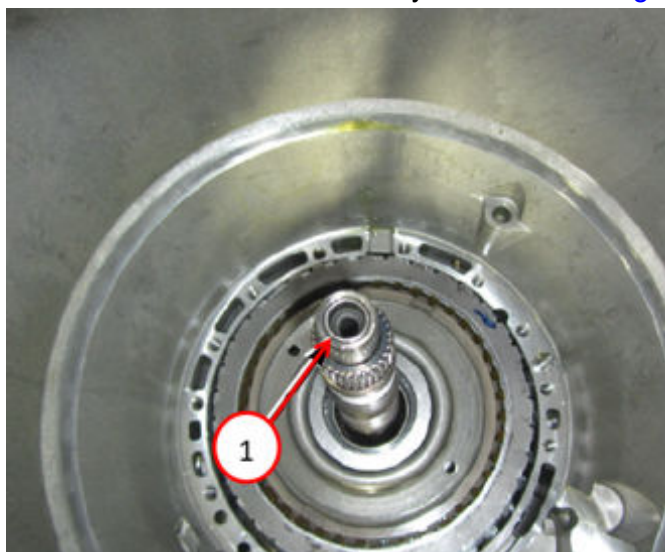

Fig. 35
52. Install the input/output shaft and P4 annulus drum assembly into the case Fig. 35.